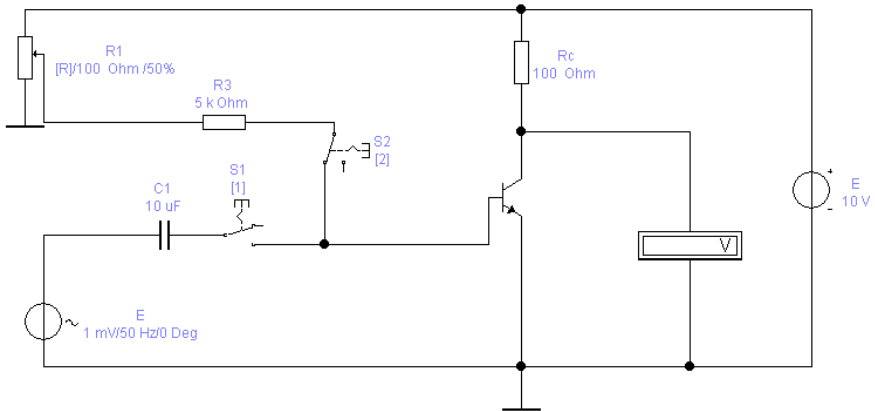

Figure 4.2 – Transistor amplifier circuit
1. Gather the scheme shown in fig. 4.2. In the scheme use the transistor, selected from the tabl. 4.1 according to the option.
2. When changing R_1 to get U_{ps} (attention, switches S_1 , S_2 must be in the position shown in fig. 4.2, S_1 is open, and S_2 is locked).